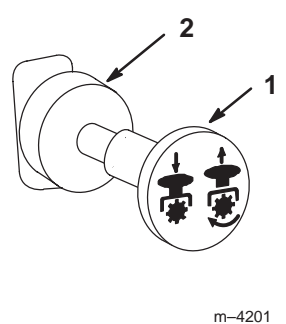

Figure 13
3. Move the PTO (power take off) switch to off (Fig. 13).